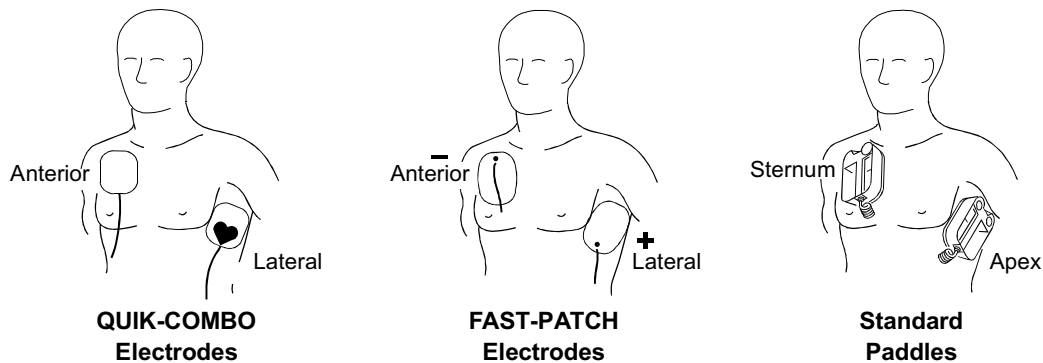

Figure 3-1 Anterior-lateral Placement
- 1 Place either the ♥ or + therapy electrode, or **APEX** paddle lateral to the patient's left nipple in the midaxillary line, with the center of the electrode in the midaxillary line, if possible. See Figure 3-1.
- 2 Place the other therapy electrode or **STERNUM** paddle on the patient's upper right torso, lateral to the sternum and below the clavicle as shown in Figure 3-1.